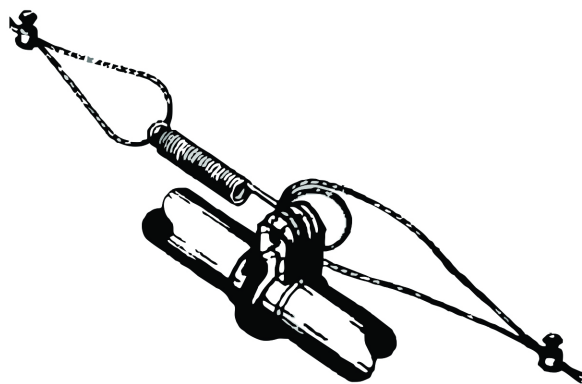

Figure 45. Anti-Roost Cable Mid-Line Connection
4. Attach a spring in the center groove at the second anti-roost bracket and cut the cable at this point. (See **Figure 45.**)
5. Thread the ends of the cable through the end of the spring. Pull the cable tight so that there is 3/4" to 1" [20 to 25 mm] of stretch in the spring. Clamp the cable to form a loop and cut off any excess. (See **Figure 45.**)
6. Attach the cable to the insulator. For best results, make a double loop around the anti-roost insulator in the center groove of the insulator and fasten with a 1/16" cable clamp as shown in **Figure 45.**